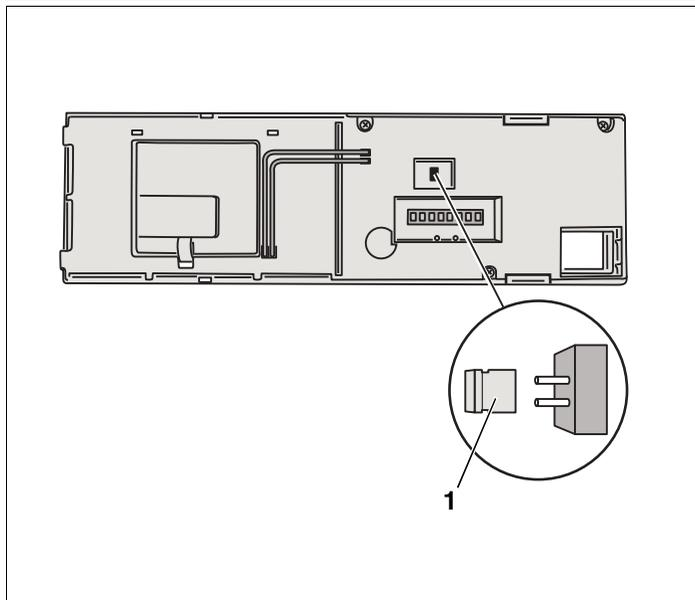

Fig. 22 Back of the BC10 base controller
- Remove jumper (→ Fig. 22 [1]) if the boiler output should be restricted.